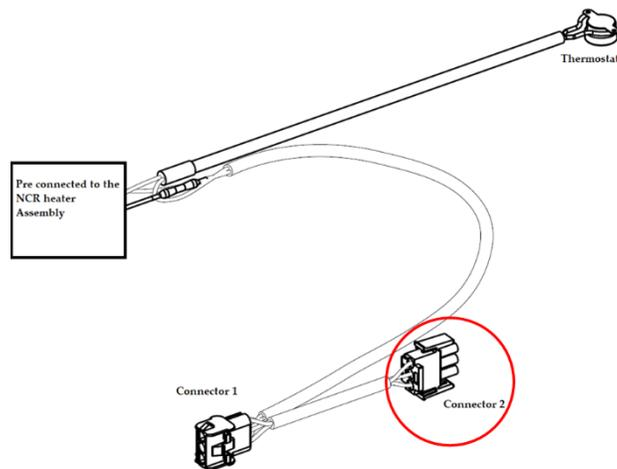
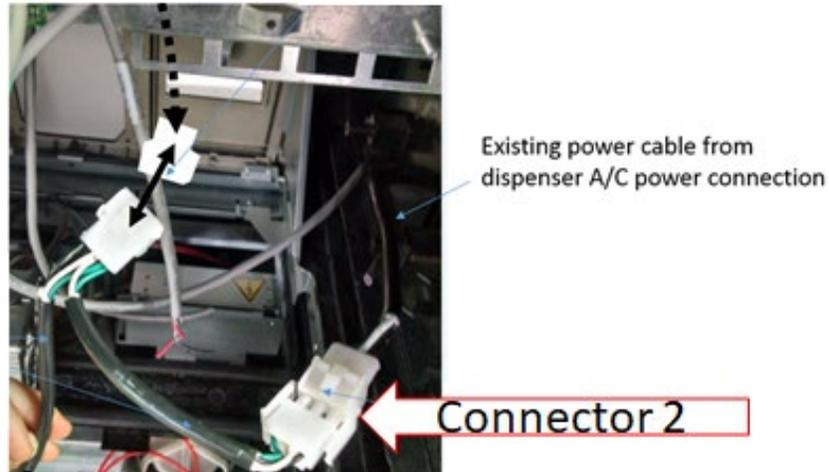

Figure 221
Figure 222
31) Affix Connector 2 (identified in Figure 221) to the existing dispenser A/C power cable as shown in Figure 222.